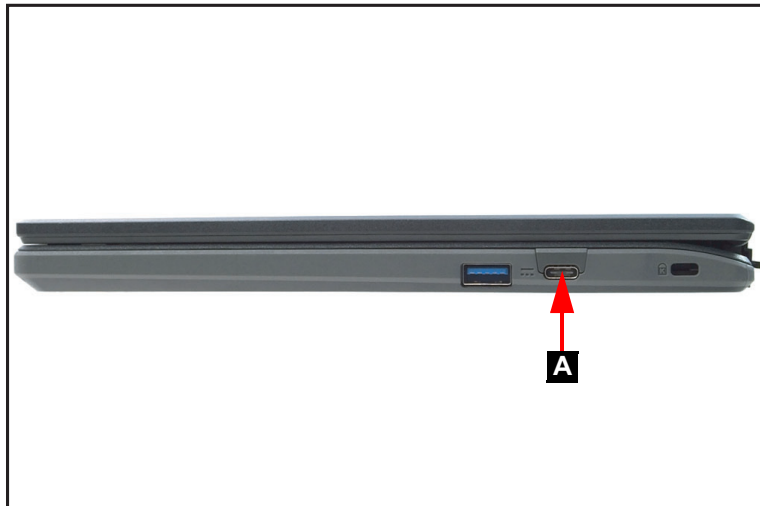
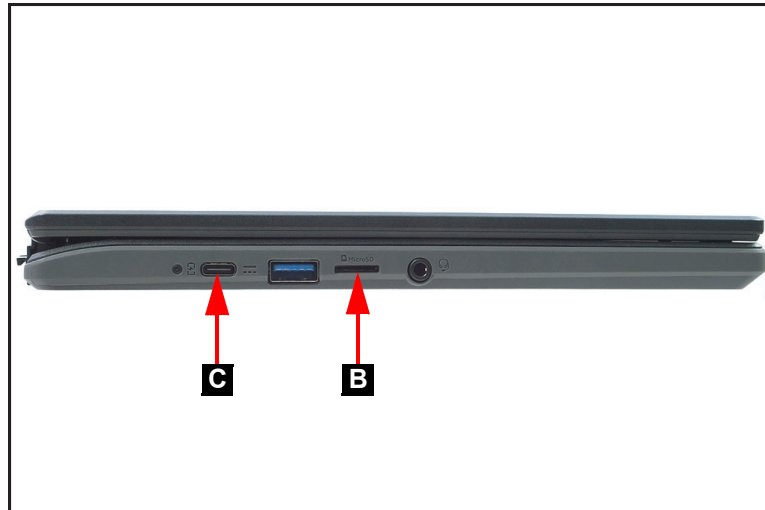

Figure 1-1. AC Adapter Outlet
Figure 1-2. SD Card Removal
2. Remove the power adapter from the USB Type-C port (A) as shown in Figure 1-1 or from the USB-C port (C) as shown in Figure 1-2.
4. Remove the SD card from the SD card slot (B) (Figure 1-2).